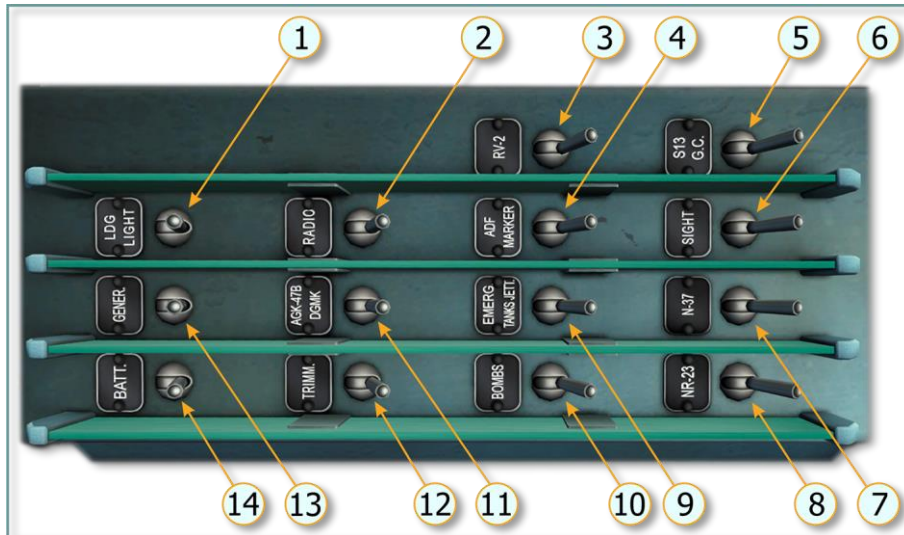

Figure 4.13. Right electrical distribution panel
(14) *RIGHT ELECTRICAL DISTRIBUTION PANEL*. This panel (Figure 4.13) is used to turn the following items on and off: lights, electrical units, radio electronic equipment, trimmers, gyrocompass, attitude indicator and armament system objects.